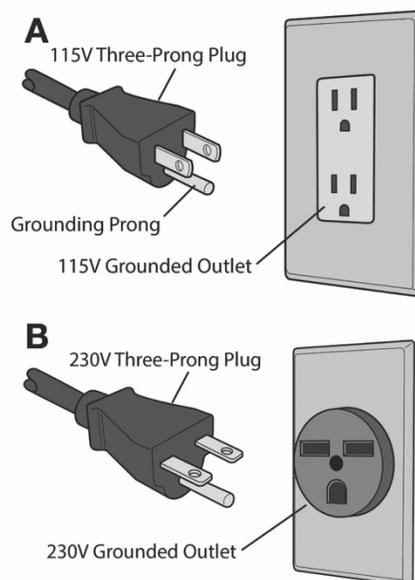

Figure 13
This table saw is rated at 115/230V power and is pre-wired for 115 volt. The table saw comes with a plug designed for use on a circuit with a *grounded outlet* that looks like the one pictured in **A**, Figure 13.
**⚠ WARNING** You must connect the electrical plug to a properly grounded, three-wire electrical outlet as shown in Figure 13. If you do not have a properly grounded, three-wire electrical outlet, you must contact a qualified electrician to install one. Installation must comply with all local codes and ordinances. Do not use this machine until a properly grounded, three-wire electrical outlet is installed and ready for use.
This tool is intended for use on a circuit that has an outlet that looks like the one illustrated in **A**, Figure 13. Make sure the tool is connected to an outlet having the same configuration as the plug.
This tool is intended for use on a circuit that has an outlet that looks like the one illustrated in **B**, Figure 13. The tool has a grounding plug that looks like the plug illustrated in **B**. Make sure the tool is connected to an outlet having the same configuration as the plug. No adapter is available or should be used with this tool. If the tool must be reconnected for use on a different type of electric circuit, the reconnection should be made by qualified service personnel; and after reconnection, the tool should comply with all local codes and ordinances.